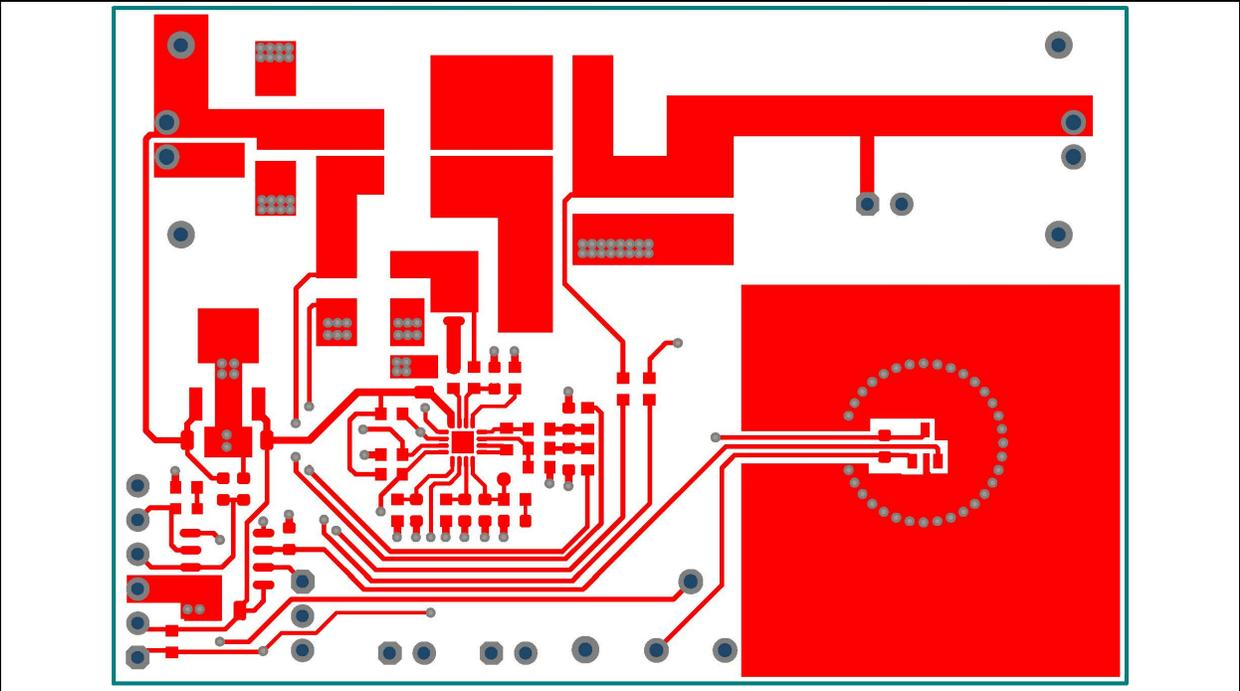
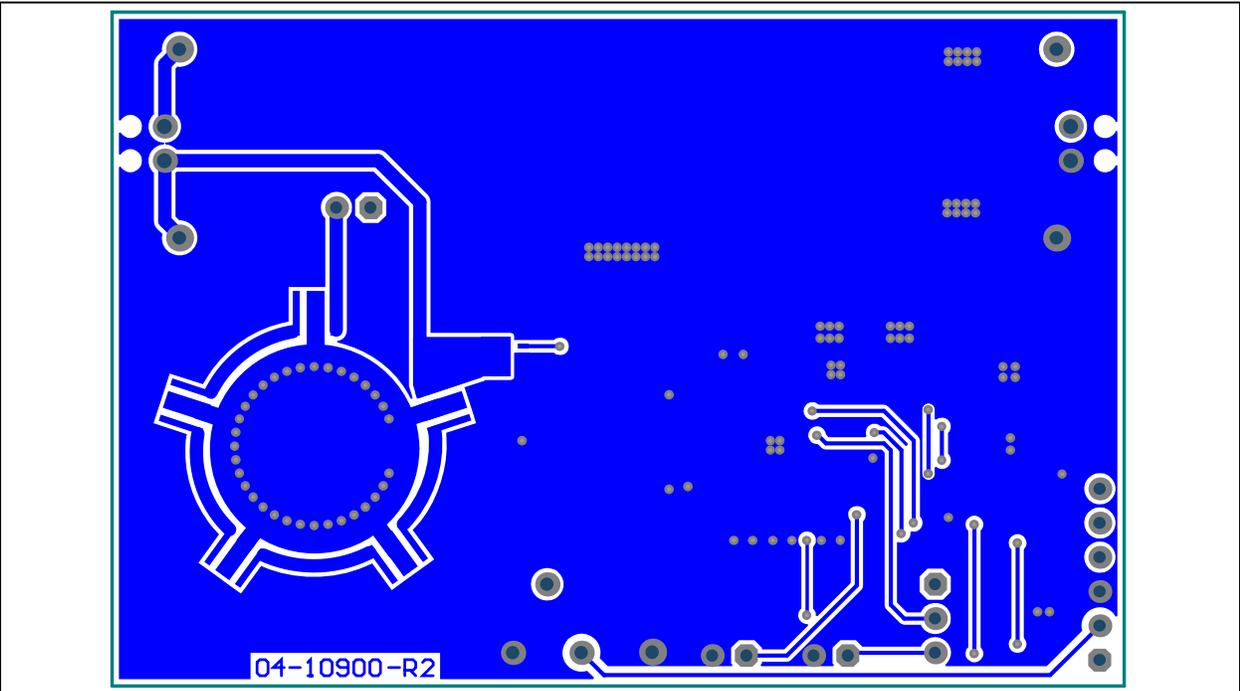

FIGURE 5-6: MCP1633 Demo Board ADM01002 — Top Copper.
FIGURE 5-7: MCP1633 Demo Board ADM01002 — Bottom Copper.
- Added Figure 5-6, Figure 5-7 and Figure 5-8 to Section 5.3, Layout Recommendations.